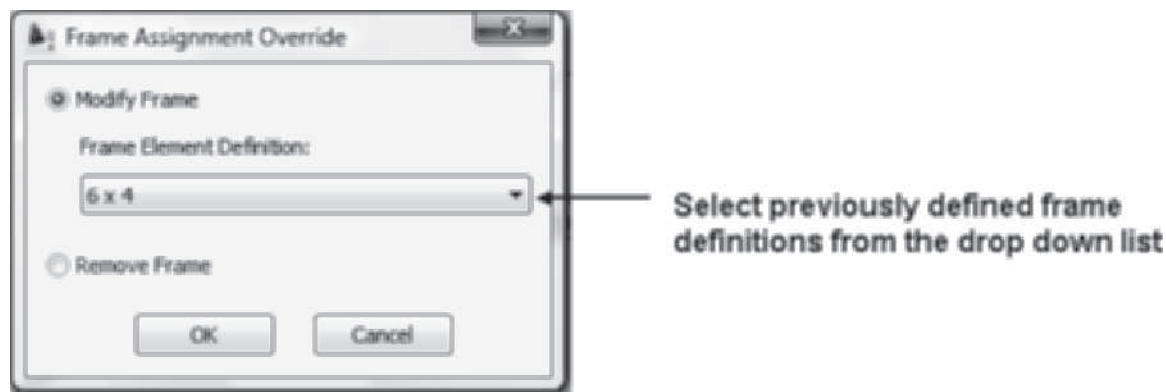

FIGURE 6.22 Selecting the frame element definition of the Frame Assignment Override
Frame Assignment Override dialog box is shown in Figure 6.22. The drop-down list of frames is limited to frame definitions defined in the style. The Frame Assignment Override dialog box also allows you to delete the frame at the selected location. This option would allow you to set the frame at the top or header position wider than the other frame components. The following steps list the procedure to create a frame assignment override.
3. Select a frame definition from the drop-down list of the **Frame Assignment Override** dialog box. The frame element shown in Figure 6.22 was previously defined in the style.